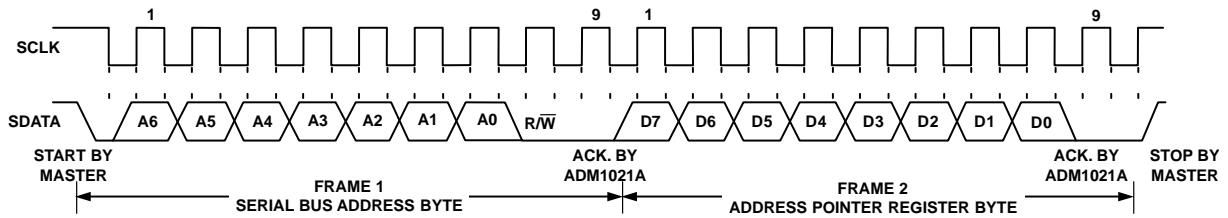

Figure 15. Writing to the Address Pointer Register Only
1. If the ADM1021A's address pointer register value is unknown or not the desired value, it is first necessary to set it to the correct value before data can be read from the desired data register. This is done by performing a write to the ADM1021A as before, but only the data byte containing the register read address is sent, because data is not to be written to the register. This is shown in Figure 15.
2. If the address pointer register is known to be already at the desired address, data can be read from the corresponding data register without first writing to the address pointer register, so Figure 15 can be omitted.